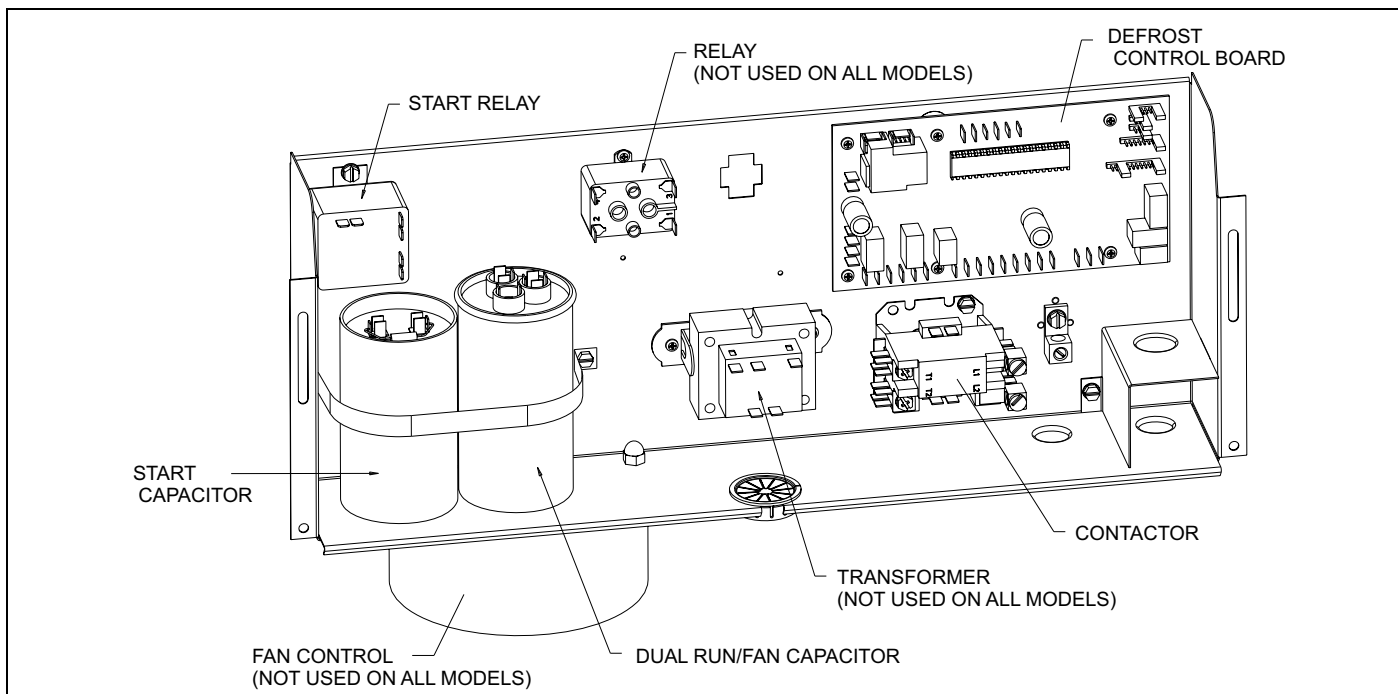

FIGURE 4
1. Use the two pilot holes on the left side to attach start relay. See Figure 4.